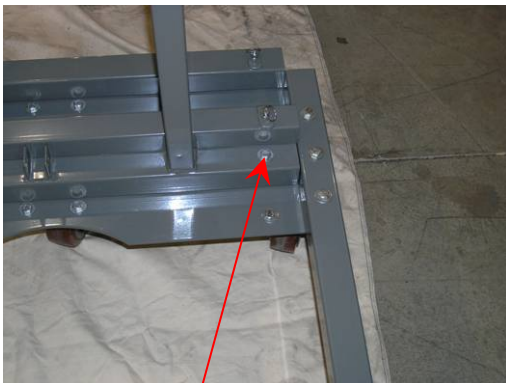

Fig 7.1
- 7.1 Place one (1) End Frame on top of the base end plate as shown in **Fig 7.1**.